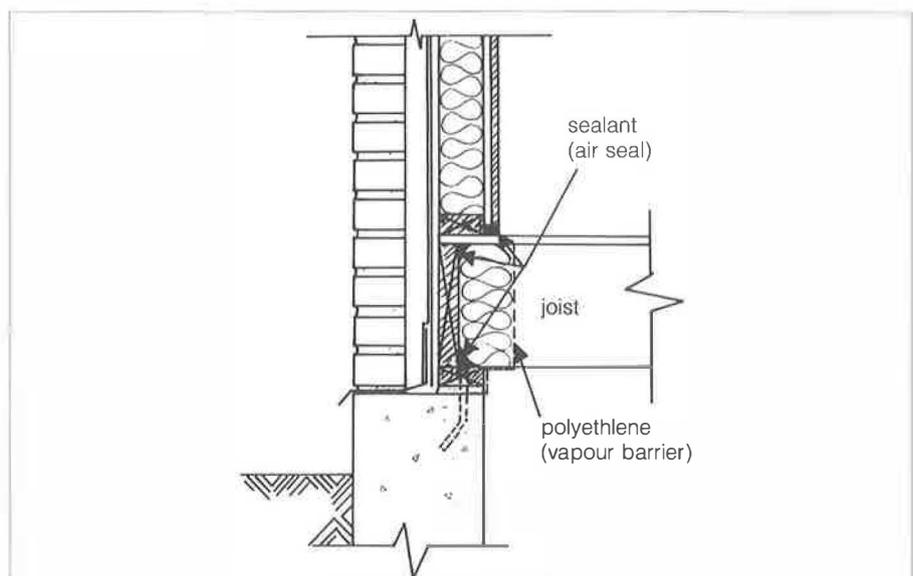

Fig. 26 . Air and vapour barriers: header/joists detail
- Provide an air barrier and a vapour barrier if the basement wall is finished or insulated, particularly in the area of the first floor joists (fig. 26).